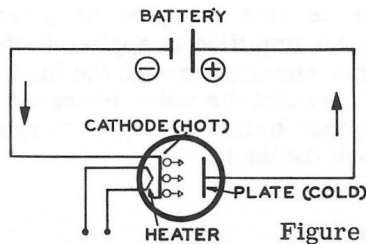

Figure 3-76
The operation of any vacuum tube depends on the emission of electrons from a material. Some materials, such as tungsten and several metallic oxides, will emit electrons from their surfaces when they are heated. The electron emission occurs in the same way that water boils off the surface of a hot frying pan. The cathode of a vacuum tube is made of an emitting material, and the cathode is heated by a heater filament just like the heating filaments in an electric toaster. For this discussion a diode is pictorially connected to a battery in Figure 3-75. The same picture is shown in schematic form in Figure 3-76.
When the battery is connected as shown in Figure 3-76, a + charge appears on the plate (P). When the heater filament (H) is heated (by a separate voltage source not shown in Figure 3-76) the cathode (K) becomes hot enough to emit electrons. These electrons are then attracted to the plate (opposite charges attract) and travel the space between the cathode and the plate as shown by the small arrows in the tube in Figure 3-76. The tube is evacuated so that the electrons will not be slowed down by any air in the tube. (Hence the term "vacuum tube.") When the electrons reach the plate, they continue to flow to the + side of the battery. The electrons which have "boiled off" the cathode are replaced by the - side of the battery, so that electrons must flow from the - side of the battery to the cathode. In this way, a circuit is completed.